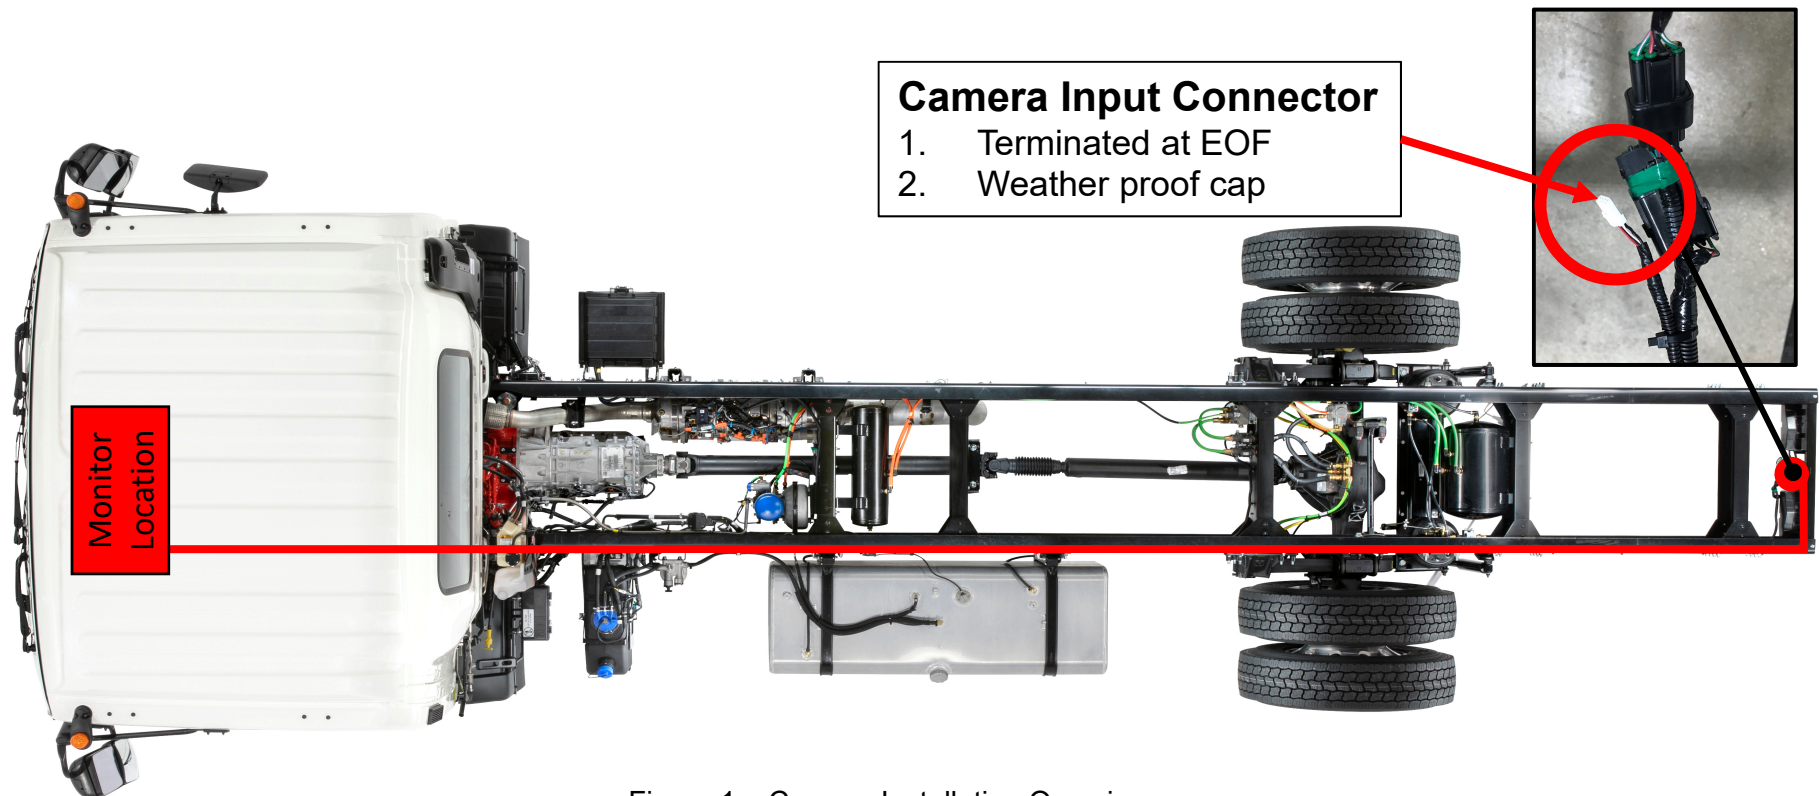

Figure 1 – Camera Installation Overview
- RPO codes I1V (Audio system with 7" diagonal color touch screen) and I2V (Audio system with 7" diagonal color touch screen with backup camera) will both include a pre-wired camera input connection at the end of the chassis frame. (Figure 1)